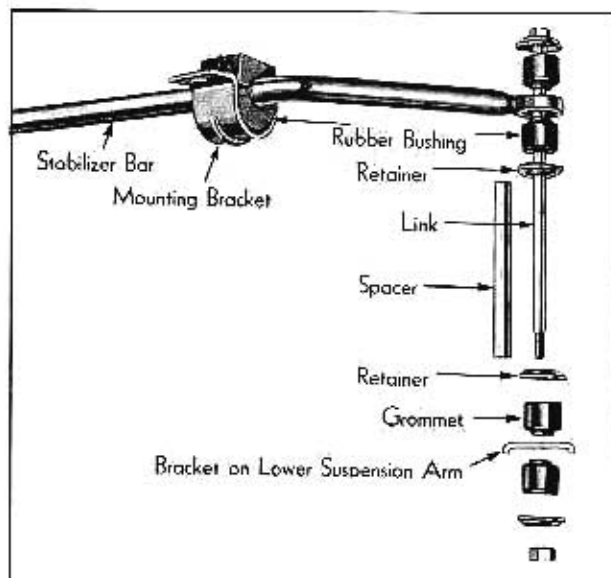

Fig. 6-19 Front Stabilizer Linkage
1. Remove nut, retainer, and bushing from bottom of each link, Fig. 6-19.
The installation procedure is the reverse of removal. When assembling link, use Fig. 6-19 as a